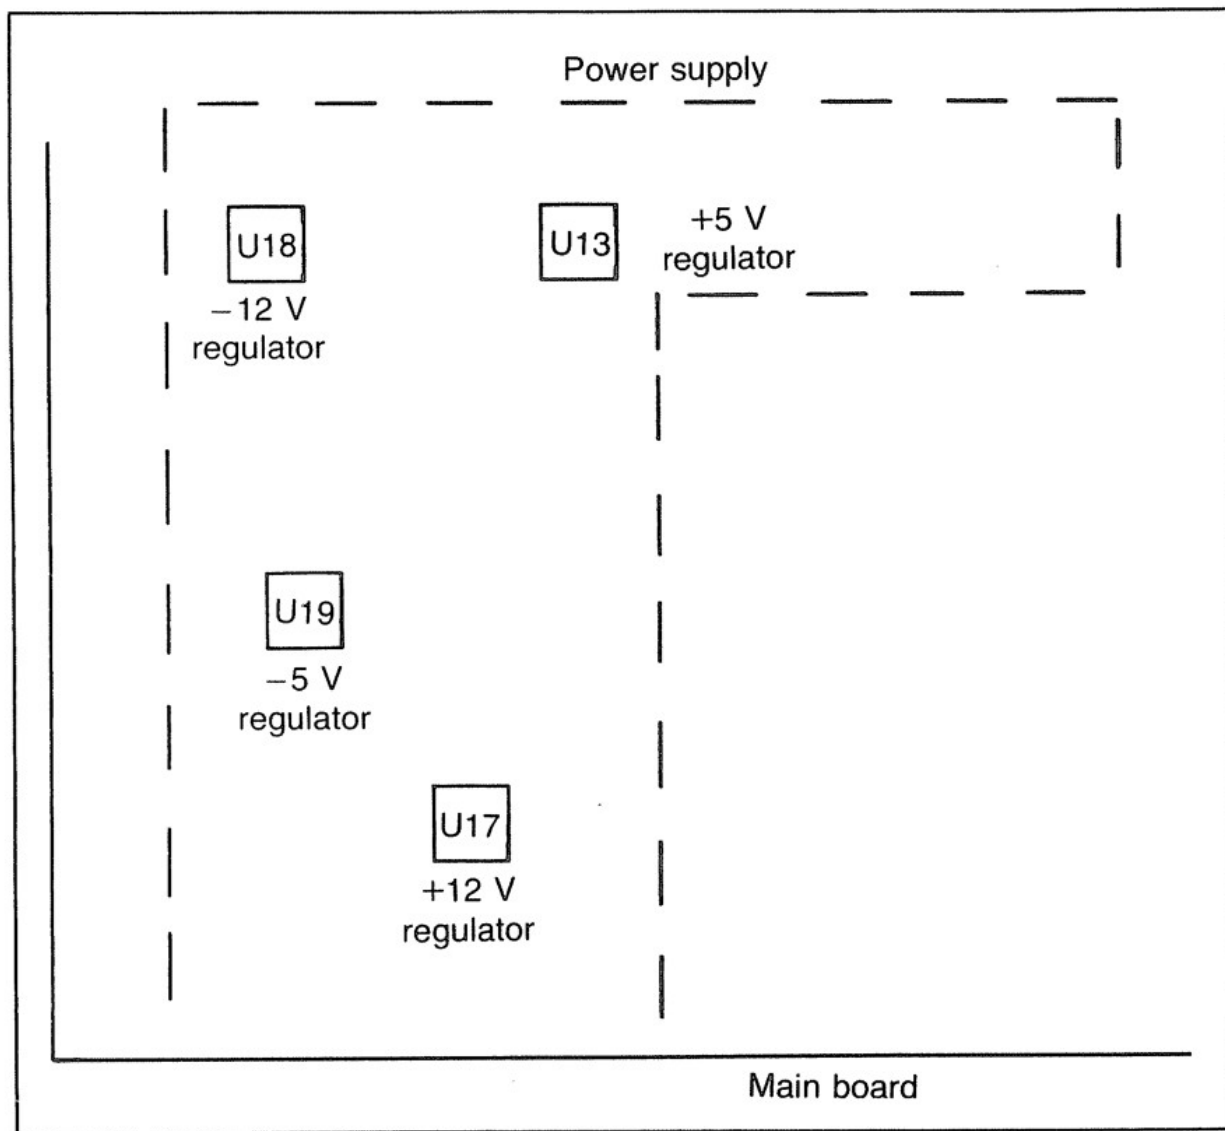

Fig. 3-9. The power supply voltages are among the most tested ones. If a record of them is on the guide, the schematic needn't be consulted.
□ The voltages of the different power supply components (Fig. 3-9).